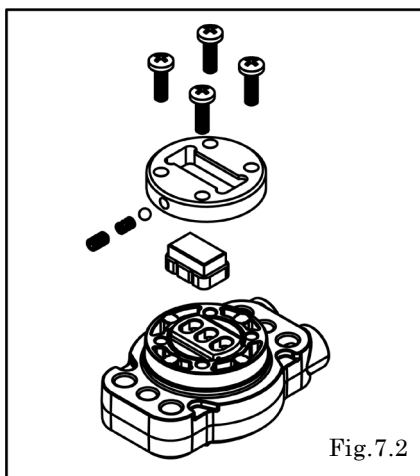

Fig. 7.2
- Remove the 4 bolts from the guide plate with a Phillips-head screw driver, and remove the guide plate and block. [Fig. 7.2]
- Remove the hexagon socket set screw from the guide plate, and remove the spring and ball. [Fig. 7.2]